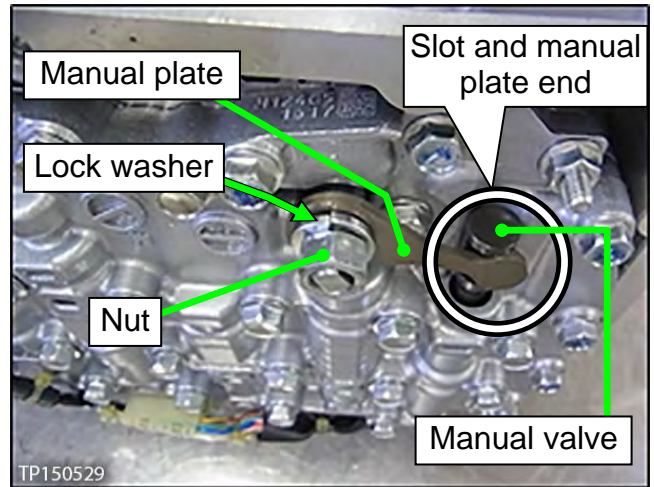

Figure 25
8. Install the manual plate, lock washer, and nut (Figure 25).